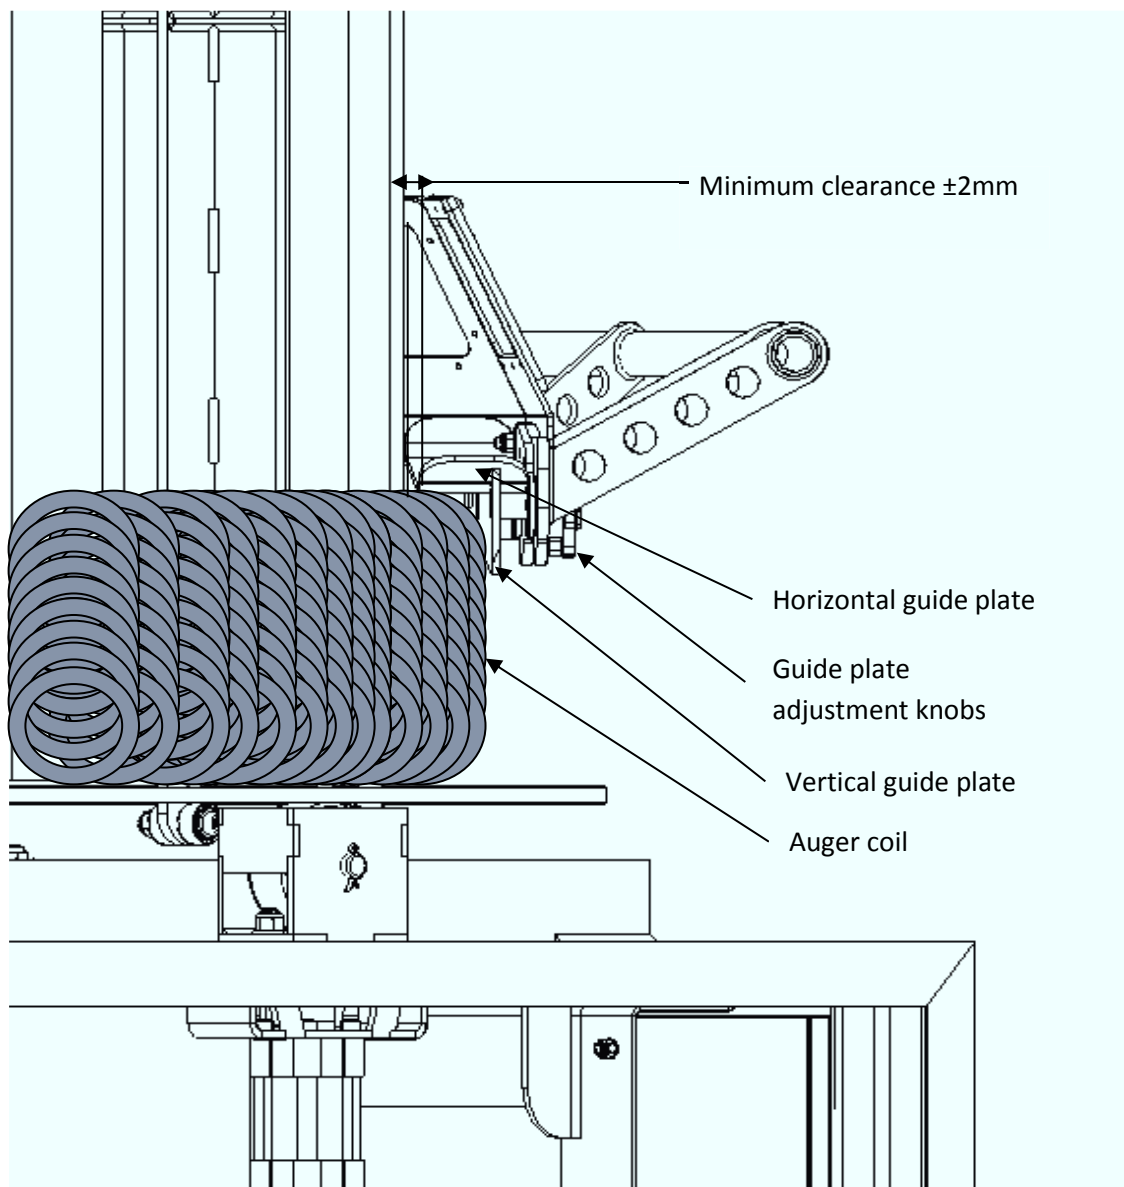

Figure 25: Coiler arm operation
11. Pull the auger through the AUGER INLET GUIDE and around the mandrel as displayed in Figure 25 while running the decoiler FORWARD in MANUAL MODE. The auger must be wrapped tightly around the mandrel and fixed to itself once a full revolution has been reached.
13. The coiler arm can now be engaged by pressing the ARM IN button on the HOME SCREEN on the HMI. The arm will move in automatically towards the mandrel and keep a constant pressure for coiling. The placement of the GUIDE SHOE and the setting of the PRESSURE PLATE must be adjusted correctly as explained in Figure 25 on page 29. More detail in reference to operating the coiler arm on page 29
The coiler arm is used to wrap the auger tightly and neatly around the mandrel while the mandrel is turning. Before coiling commences, the coiler arm should be adjusted to fit correctly over the auger being coiled. When smaller augers are being coiled, the vertical guide plate should be adjusted to allow a ± 2 mm clearance between the edge of the coiling arm and the mandrel (see Figure 25). It can be adjusted by turning the two knobs on the arm. **Always ensure that the side guide plate is adjusted evenly and that it remains parallel with the coiler arm. An uneven guide plate will impair the coiling performance.**
The arm is operated by the HMI screen input and is controlled through a pneumatic cylinder. The arm has 3 positions namely ARM IN (arm in coiling position), ARM OUT (arm completely free of the mandrel position) and ARM OFF (arm completely disabled). When the auger is wrapped around the mandrel and the operator is ready to commence with coiling, place the arm onto the auger as shown in Figure 25 by activating the ARM IN button and guiding the arm to the correct position. If the arm is set up correctly as shown in Figure 25 and in the ARM IN position, coiling can take place without any human support needed. This allows for full automatic coiling.
- Guide plates on coiling arm (Figure 25)